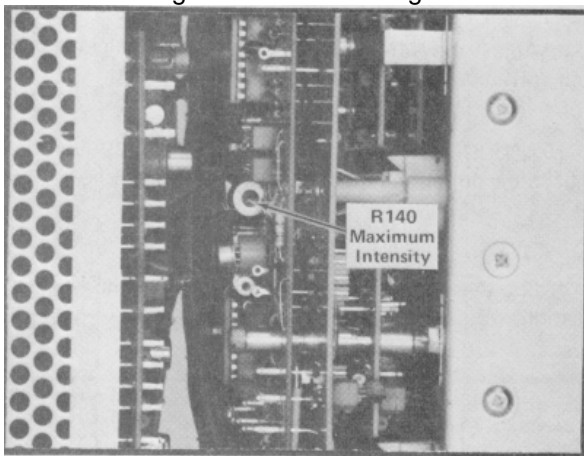

Fig. 5-4. Location of maximum intensity adjustment (bottom of instrument).
j. ADJUST-Maximum Intensity adjustment R140 (see Fig. 5-4) for a meter reading 60 volts more positive than the reading noted in part e.